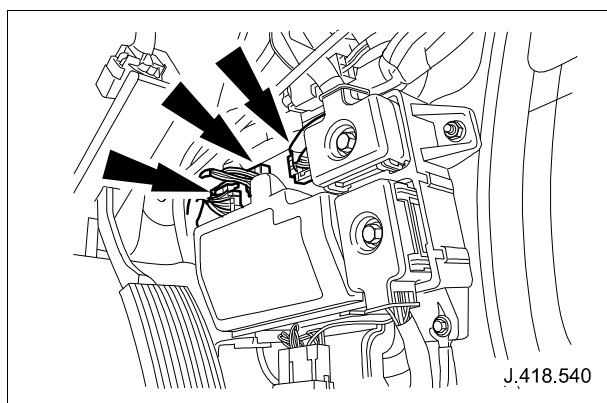

Fig. 10
- 3.4 Check primary junction box connections (located in right-hand side A-post fusebox) are pushed fully home and are not damaged i.e. bent/backed-out. Where available, utilize opposing pins from the harness repair kit and insert into populated pins to ensure a good/tight fit is achieved. (See Fig. 10)